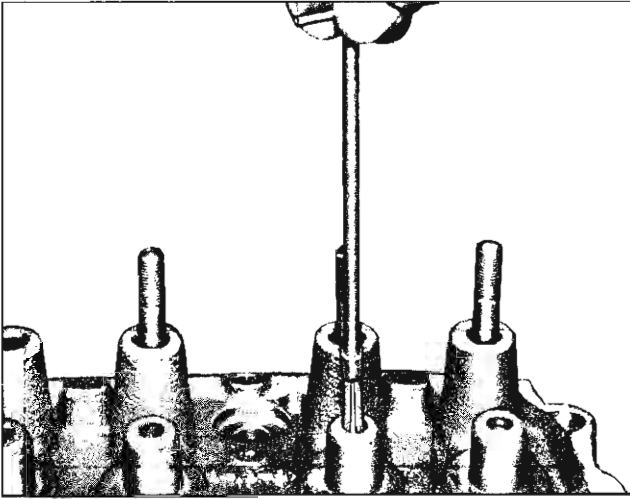

Fig. 11—Cleaning Valve Guide Bores
2. Thoroughly clean the valve guides using Tool J-8101 (fig. 11).